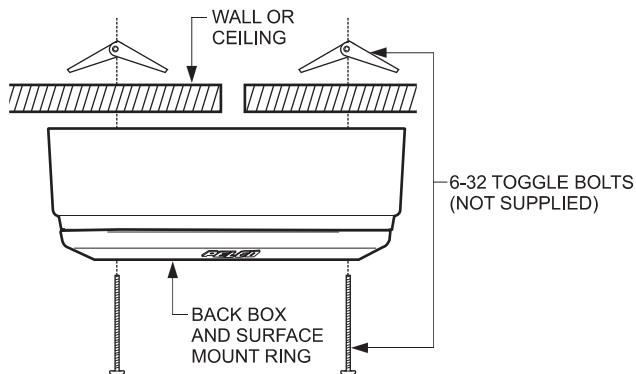
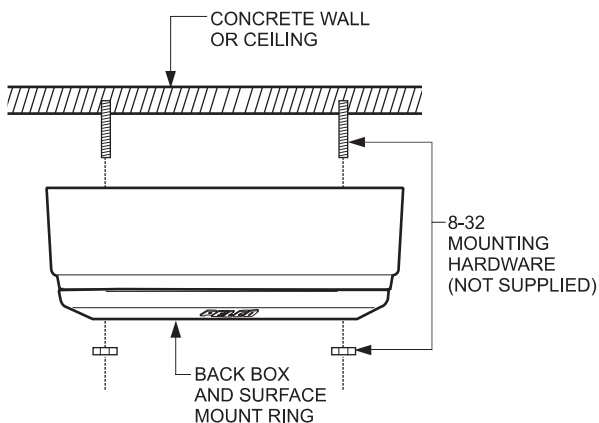

Figure 2. Ceiling/Wall Installation
Figure 3. Concrete Ceiling/Wall Installation
Refer to Figure 2 for the following steps. Refer to Figure 3 if installing the unit to a concrete ceiling/wall.
4. Use the 6-32 toggle bolts (not supplied) to attach the surface mount ring and back box to the mounting surface, refer to Figure 2.
NOTE: For a concrete ceiling/wall installation, use 8-32 mounting hardware (not supplied), refer to Figure 3.